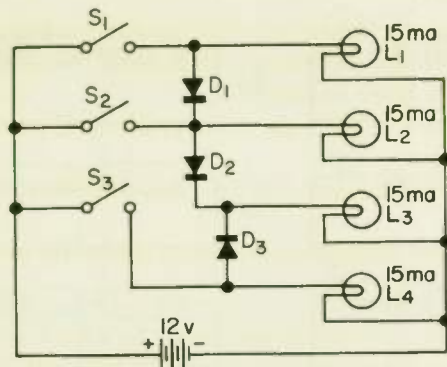

Fig. 15
14. Referring to Fig. 15, when switch S_1 only is closed, what lights are on?
15. Referring to Fig. 15, when switch S_2 only is closed, what lights are on? (Select answer from choices for Question 14) _____
18. Assume in Fig. 15 that all the diodes are 1N63's, whose characteristic curves are shown in the lesson. While all the lamps are intended for 12-volt operation, the voltage across some may be less than 12 volts because of the voltage lost across any diodes in series. The voltage across a lamp may be less when one switch is closed than with another closed. When lamp L_1 is lit, what is the minimum voltage that would be across it? (Assume each lamp draws 15 ma.)